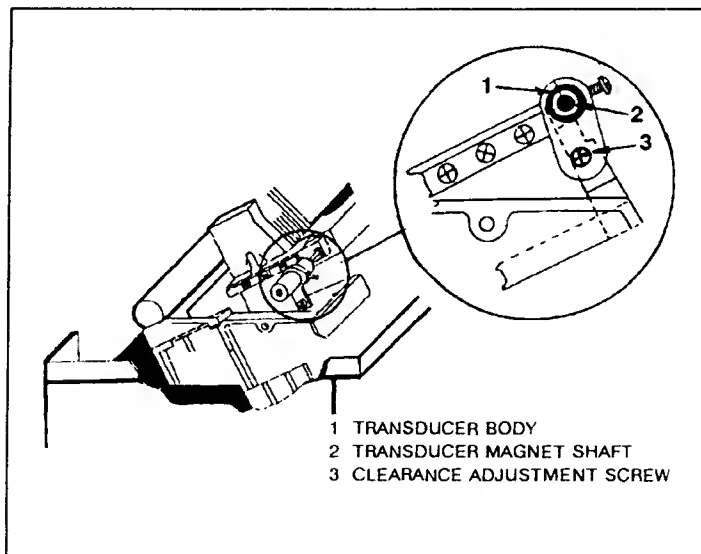

Figure 5-4. Velocity Transducer Clearance Adjustment
The Clearance Adjustment centers the magnet in the center of the velocity transducer body (see Figure 5-4) so that as the magnet moves in and out of the transducer body it does not scrape the sides. The clearance adjustment can be completed with or without the special centering tool (P/N 02566-20152) as described in steps c and d, below.
- b. Loosen the clearance adjustment screw (see Figure 5-4).
If not using the centering tool, view down the velocity transducer shaft to see the position of the magnet with respect to the shaft sides (see Figure 5-4).
- d. Move the velocity transducer body until the magnet appears to be centered in the hole (see Figure 5-4).